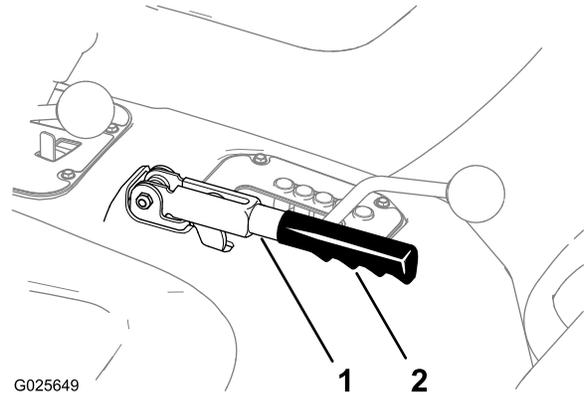

Figure 79
1. Remove the rubber grip from the parking-brake lever (Figure 79).
5. Install the rubber grip onto the parking-brake lever (Figure 79).